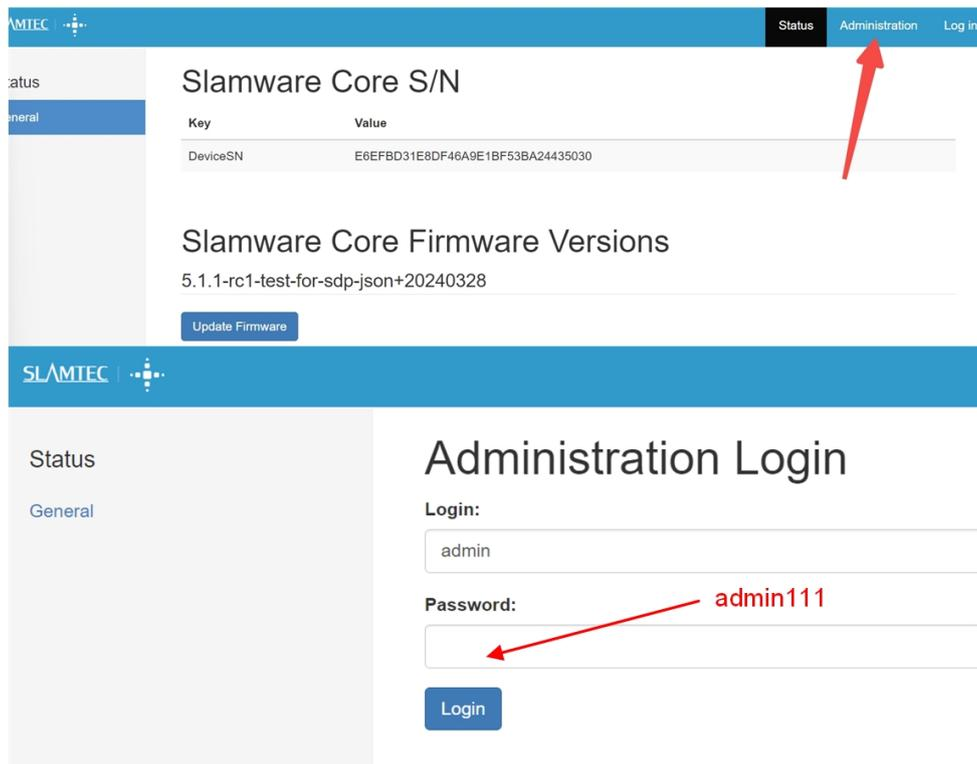

Figure 6.2: Login to the Management Page
4. Follow the instructions in figure 6.2 to login to the management page.